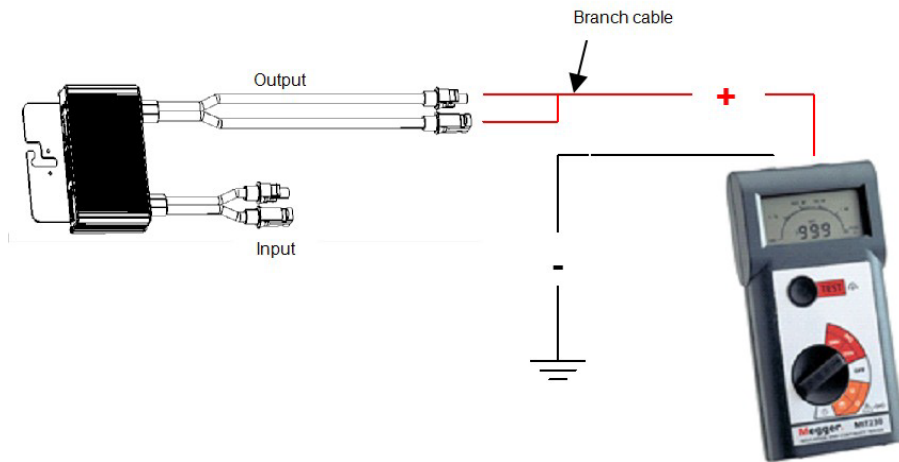

Figure 7: Connecting the Insulation Tester to the Power Optimizer
- b. Connect the Power Optimizer's positive and negative output connectors to the branch cable (see Figure 7 below).